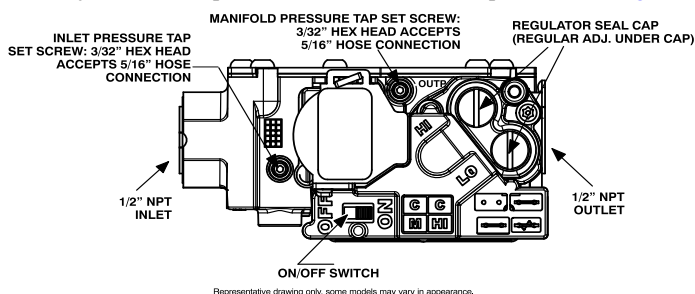

Fig. 63 – Gas Valve with Tower Pressure Ports
1. Adjust manifold pressure to obtain low fire input rate. See Fig. 63.
- Remove regulator adjustment cap from low heat gas valve pressure regulator and turn low-heat adjusting screw (3/16 or smaller flat-tipped screwdriver) counterclockwise (out) to decrease input rate or clockwise (in) to increase input rate. See Fig. 63.
- Adjust manifold pressure to obtain high fire input rate See Fig. 63.
- Remove regulator adjustment cap from high-heat gas valve pressure regulator and turn high heat adjusting screw (3/16-in. or smaller flat-tipped screwdriver) counterclockwise (out) to decrease input rate or clockwise (in) to increase input rate. See Fig. 63.